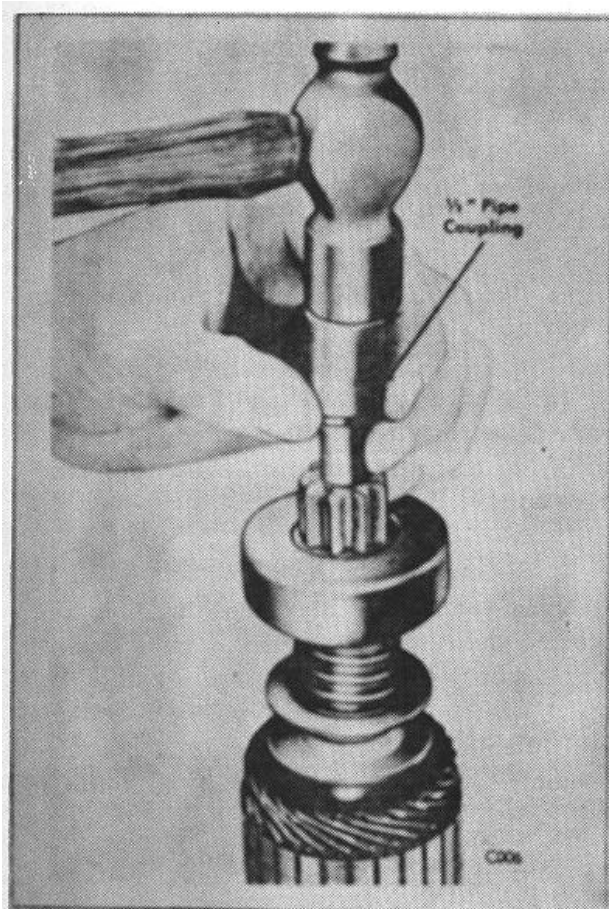

Figure 34.
b. Slide a standard 1/2 inch pipe coupling or other metal cylinder of correct size onto shaft so end of coupling cylinder butts against edge of retainer. (Fig. 34) Tap coupling with hammer to drive retainer down toward arm and off snap ring.